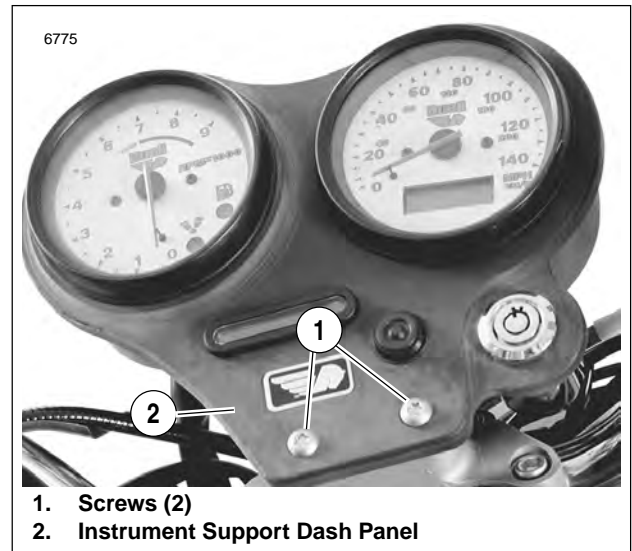
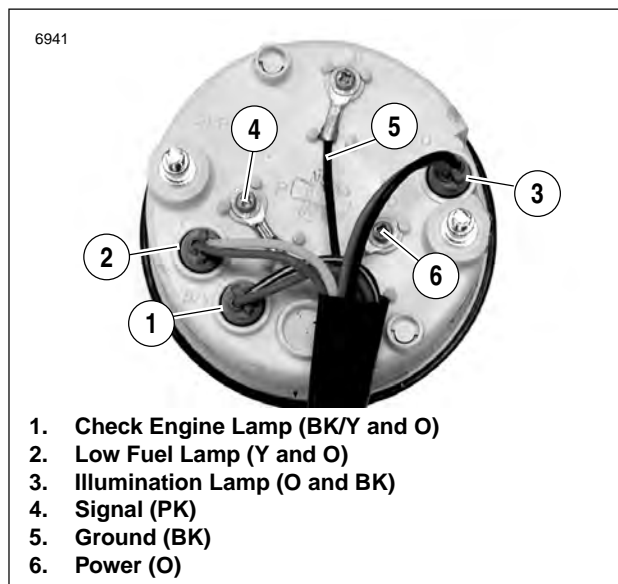

Figure 7-61. Front Dash Panel
Figure 7-63. Tachometer Wiring
2. See Figure 7-61. Detach instrument support dash panel (2) by removing two screws (1) holding panel to instrument support clamp. Pull dash panel upward, but do not damage wiring.
5. See Figure 7-63. Remove wires from tachometer.
- c. See Figure 7-63. Insert lamps (1, 2 and 3) into their appropriate bores.
4. See Figure 7-63. Install tachometer cover (5).
- b. Apply LOCTITE THREADLOCKER 243 (blue) to both nuts (metric) (3).
- c. Fasten cover (5) to tachometer using two nuts (metric) (3) and lockwashers (4).
5. See Figure 7-61. Position dash panel on instrument support clamp.
- a. Attach dash panel using two screws (1) to hold panel to clamp.